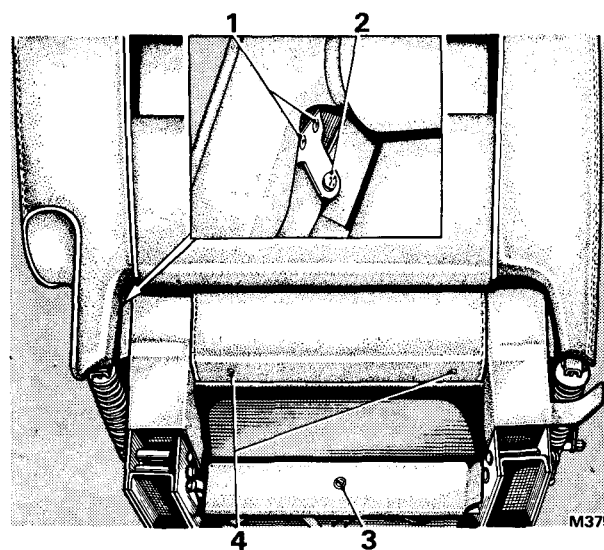

FIG. S28 FRONT SEAT BACKREST (4-Door Saloon and Long Wheelbase Non-division Cars after Car Serial Number 6000)
4. Remove the Phillips self-tapping screw securing each of the two brackets on the frame to the rear of the backrest; these two brackets are situated inside the foot well at the rear of the seat and can be identified by the two pop rivets securing each bracket to the squab frame (see Fig. S28).